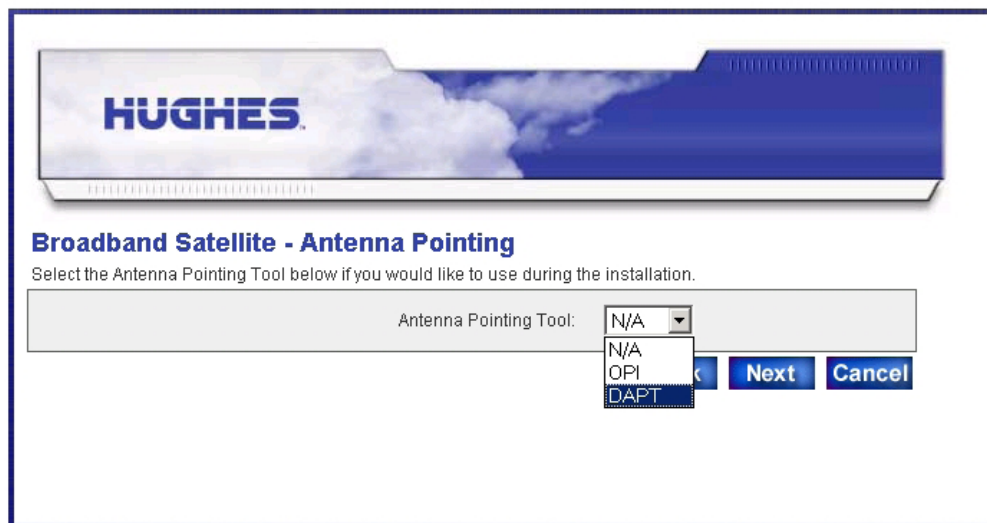

Figure 46: Antenna pointing screen
3. Click **Antenna Pointing**. The Antenna Pointing screen appears as shown in *Figure 46: Antenna pointing screen* on page 53.